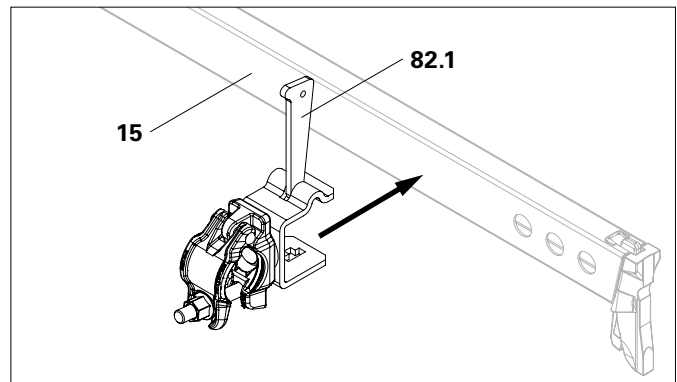

Fig. A10.04a
1. Pull the wedge (**82.1**) out of the clamping part and put the clamping part over the ledger (**15**) from the side. (Fig. A10.04a)